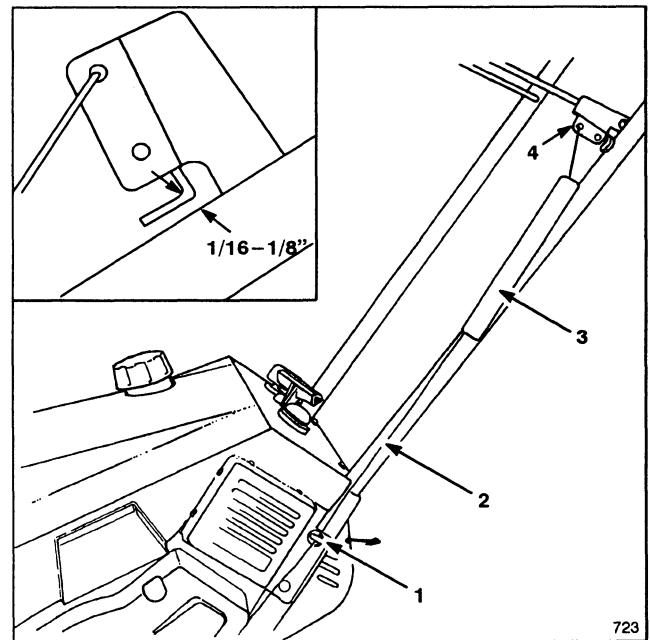

Figure 5
5. Hook spring into top hole of control bar bracket (Fig. 5).
6. Move control bar back toward handle until slack in cable is removed. The gap between the control bar bracket and handle should be approximately 1/16" – 1/8". See insert, Figure 5. If an adjustment is required, refer to Adjusting Control Bar, page 8.